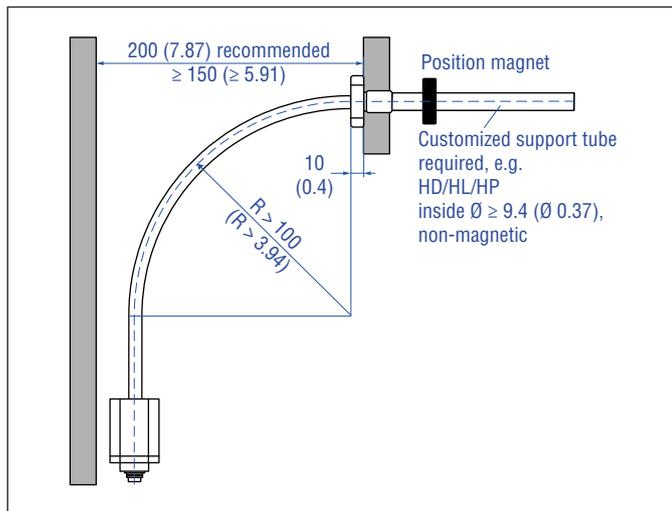

Fig. 20: Clearances for installation and handling
3. Note the minimum distance to a spatial limitation of 150 mm (5.91 in.), when mounting/dismounting the sensor. The recommended distance is 200 mm (7.87 in.) (Fig. 20).